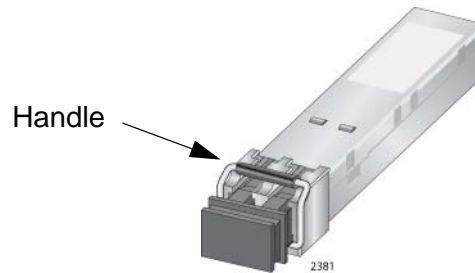

Figure 96. Handle on an SFP+ Transceiver
2. If you are installing the SFP+ transceiver in slot 1 or 3, orient it with the handle on top, as shown in Figure 96. To install it in slot 2 or 4, orient it with the handle on the bottom.